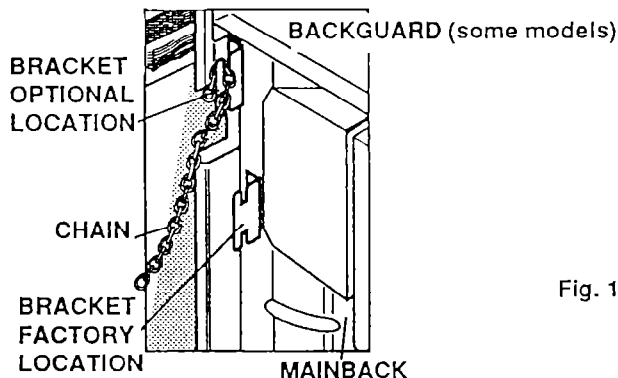

Fig. 1
1) Before placing range in the counter, notice the location of the stability bracket which is already attached to the back of the range. This location should work for most installations. However, it may be more convenient to hook the stability chain to the unit when the stability bracket is attached to the upper set of holes in the back of the range. See Fig. 1.
5) Hook the loose end of the chain onto the bracket by slipping the nearest link of the chain into the slot in the bracket (see Fig. 1), making sure the chain is pulled as tight as possible and that there is no excess slack in the chain after chain is attached to the bracket.
When the range is elevated to the maximum height, there is a large space between the bottom of the range and the floor, referred to as the toe space. This may be visually objectionable. The legs should not be extended any further than to provide a maximum of 3" toe space. See Fig. 1.
After the range is installed with the longer legs and is in position and level, measure from the bottom of the bodyside to the floor. This will be the required height of the toe space filler. See Fig. 1. This height may range from 2 1/16" to 3". Any height less than 2 1/16" may not be visually objectionable and not need the filler.